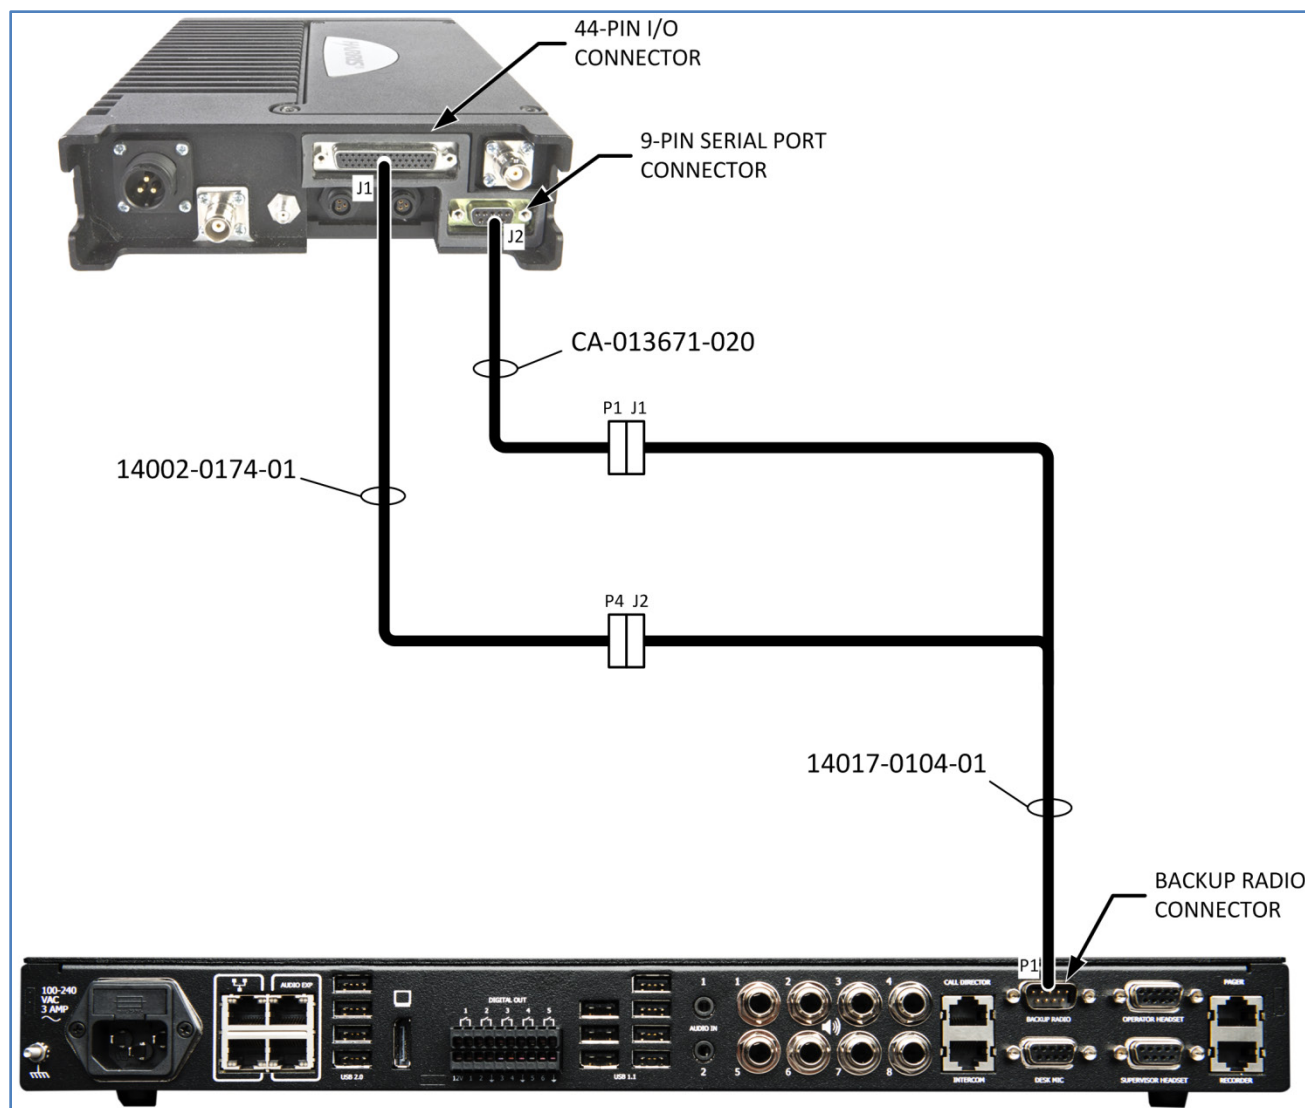

Figure 11-8: Sample Backup Radio Cable Interconnection Diagram (XG-100M shown)
1. Connect the Backup Radio Interface Cable DB-9M connector P1 to the Symphony Dispatch Platform **BACKUP RADIO** connector as shown in Figure 11-8.